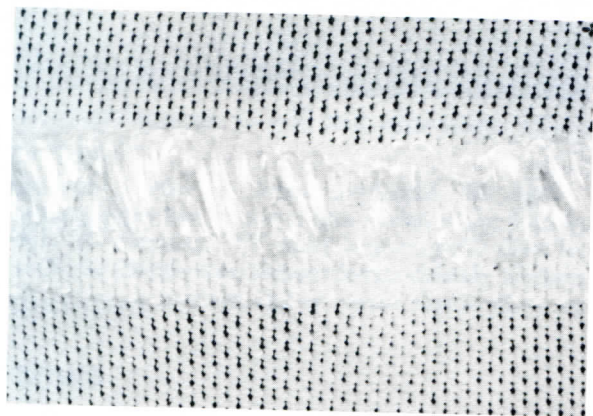

Fig. 86—Ends of Chemstrand Blue "C" spandex secured in the seam of a garment through the use of a sufficient number of stitches per inch.
2. If the fabric is not folded back, by using a sufficient number of stitches per inch along the edge of the fabric as shown in Figure 86. The higher the number of stitches per inch, the greater the extensibility of the seam.